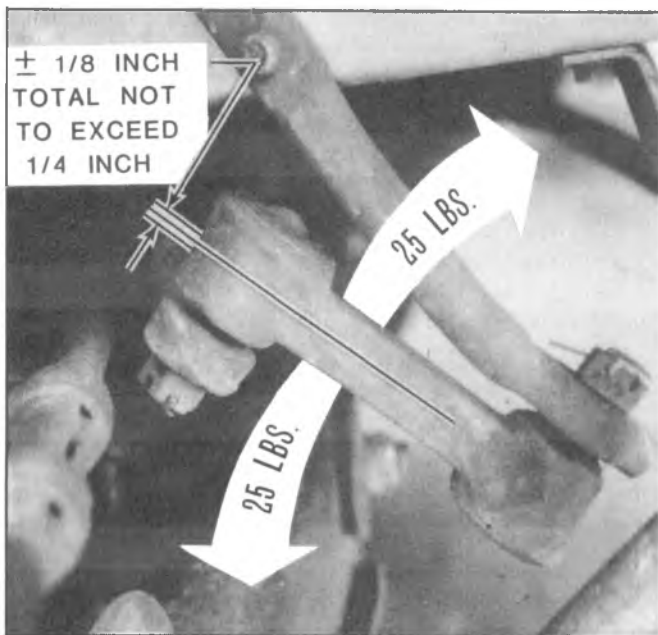

Fig. 3B-108-Checking Idler Movement
2. Using a push pull type spring scale located as near the relay rod end of the idler arm as possible, exert a 25 lb. force upward and then downward while noticing the total distance the end of the arm moves. This distance should not exceed $\pm 1/8$ inch for a total acceptable movement of $1/4$ inch (Figure 3B-108). It is necessary to ensure that the correct load is applied to the arm since it will move more when higher loads are applied. It is also necessary that a scale or ruler be rested against the frame and used to determine the amount of movement since observers tend to over-estimate the actual movement when a scale is not used. The idler arm should always be replaced if it fails this test.
2. Remove the cotter pin and castellated nut from ball stud at the relay rod. Remove the ball stud from the relay rod by tapping on the relay rod boss with a hammer, while using a heavy hammer as a backing (fig. 3B-105).